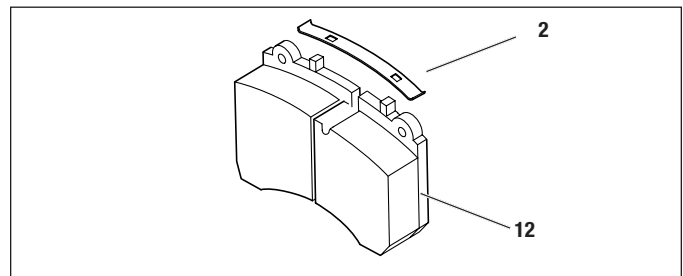

Figure 39 – Pad Retaining Spring Installation
5.2.16 Install the blue pad retaining springs (2) onto the brake pads (12) by inserting one end of the spring onto the lug at the top of the brake pad (See Figure 39). Carefully apply enough force to permit the second lug to fully engage, taking care to keep fingers etc. away from the spring as it seats.